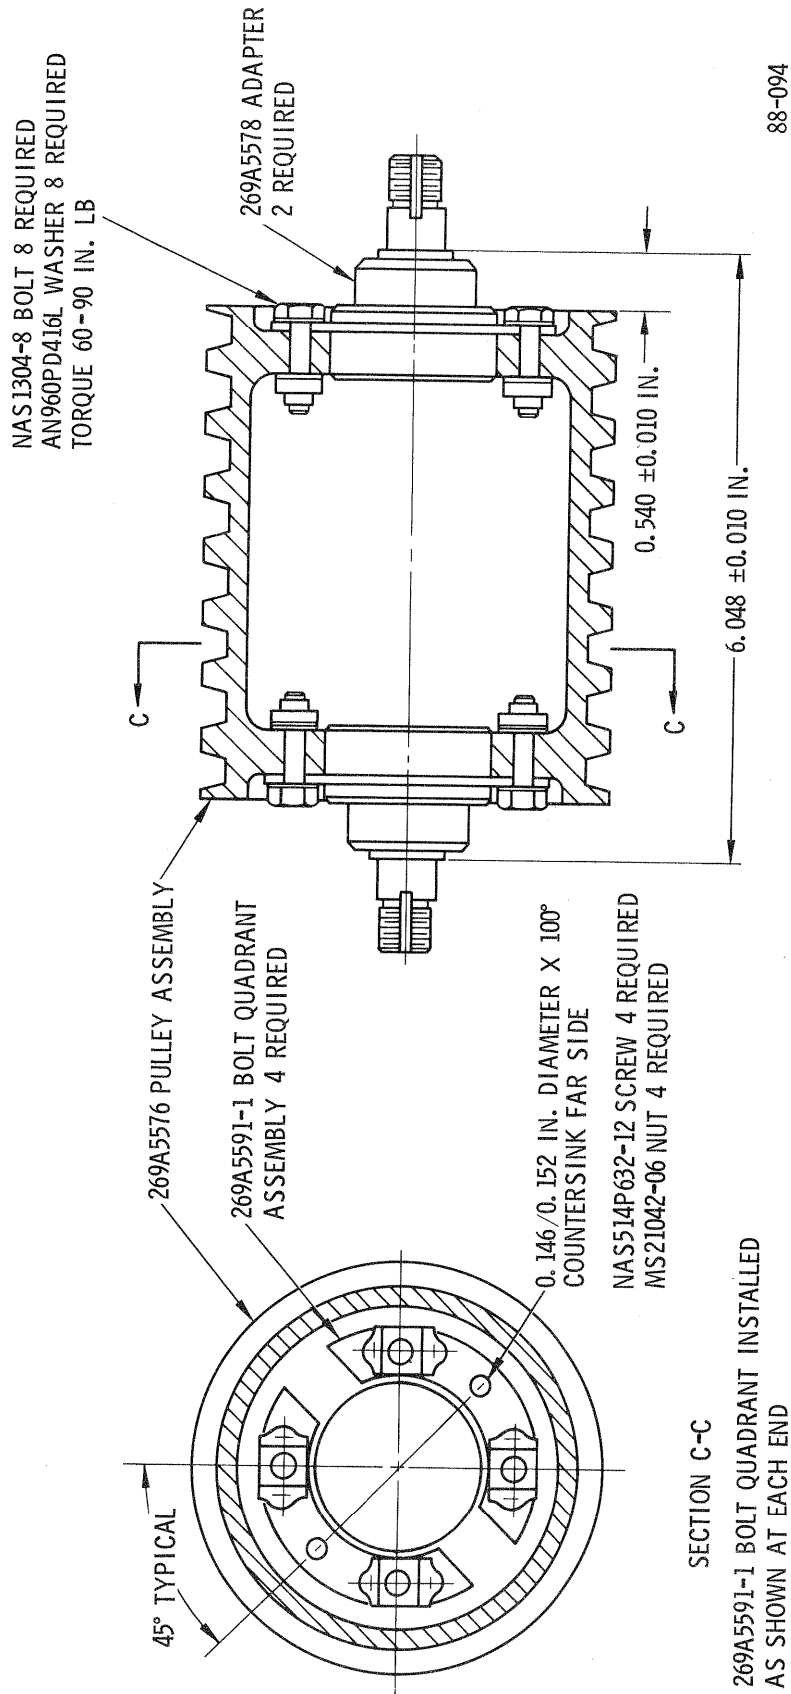

Figure 1. Modification - Belt Drive Idler Pulley Clutch Assembly
- (1) Insert nut quadrant assemblies in pulley and secure with NAS1304-8 bolts as shown in Figure 1.
- (2) Drill 0.146/0.152 inch diameter holes two places 180° apart as shown through pulley and each quadrant assembly; countersink holes at outer face of pulley.
- (3) Secure nut quadrant assemblies with NAS514P632-12 screws and MS21042-06 nuts; install with zinc chromate primer. Heads of screws must be flush fit or below.
- (4) Remove NAS1304-8 bolts.
- d. Reinstall adapters in pulley bores in same location and position as originally installed, and at dimensions shown in Figure 1.
- (1) Check bearings for roughness; replace bearings if roughness is noted.
- (2) Check that ID bore of pulley support and mating surfaces of the bearing retainers are clean and free of any paint.
- (3) Check that bearing movement in retainers is free and easy prior to installation into the support assembly.